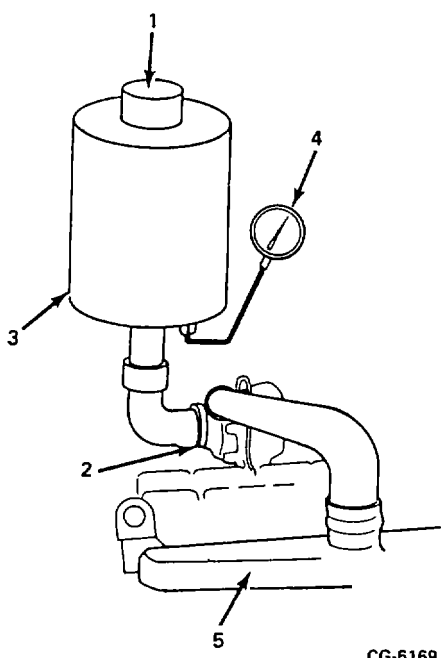

Figure 14. Checking Air Cleaner Restriction
1. Attach restriction test (vacuum) gauge (4, Figure 14) at air cleaner (3).
3. Service air cleaner element when vacuum gauge (4, Figure 14) shows 6.2 kPa (25 in. H20) for turbocharged engines.
4. Service air cleaner element when vacuum gauge (4, Figure 14) shows 7.0 kPa (30 in. H20) for turbocharged engines measured at the TurboInlet (2, Figure 14).